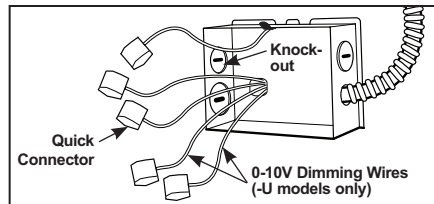

Figure 6
**Step 2.** Remove wiring box cover. Remove the appropriate knock-out(s) to accommodate the type of electrical service to be used/allowed by your local electrical code (Fig. 6):
**Step 3.** Strip supply wire 3/8" and insert each supply wire into appropriate connector. Connect black fixture wire to hot, white fixture wire to neutral and green fixture wire to ground. (Fig. 6).